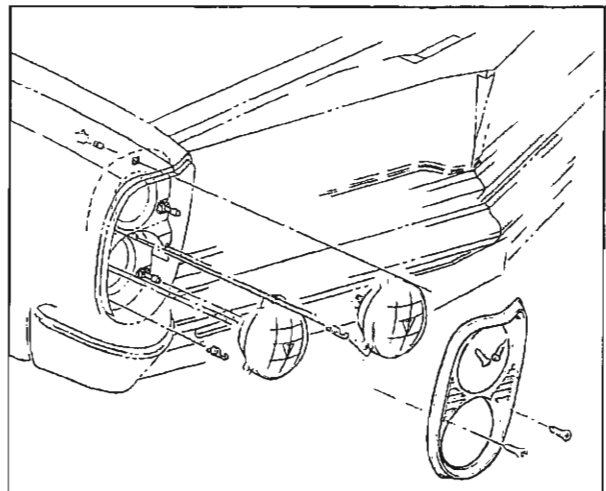

Fig. 10-6 Headlight Assembly
3. Remove head lamps (Fig. 10-6).